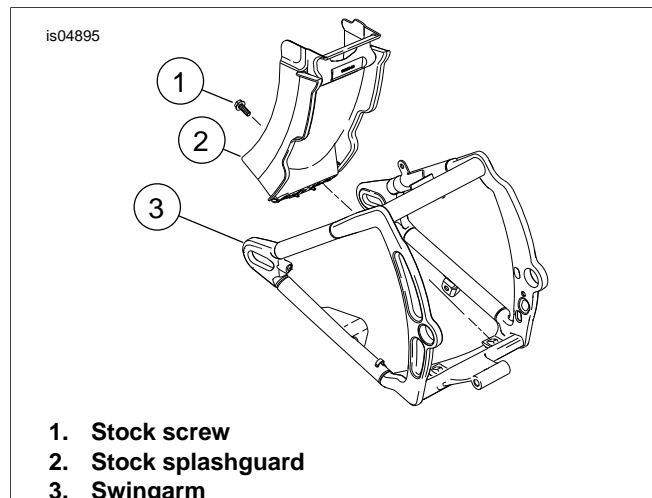

Figure 1. Stock Splashguard
3. See Figure 1. Remove one screw (1) and stock splashguard (2) from swingarm (3).